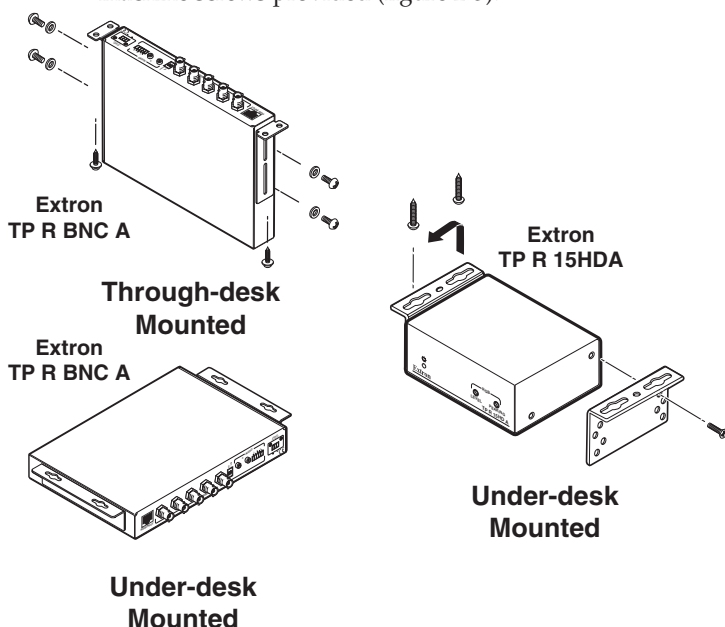

Figure 2-5 — Under-desk or through-desk mounting
1. Attach the mounting brackets to the receiver with the machine screws provided (figure 2-5).